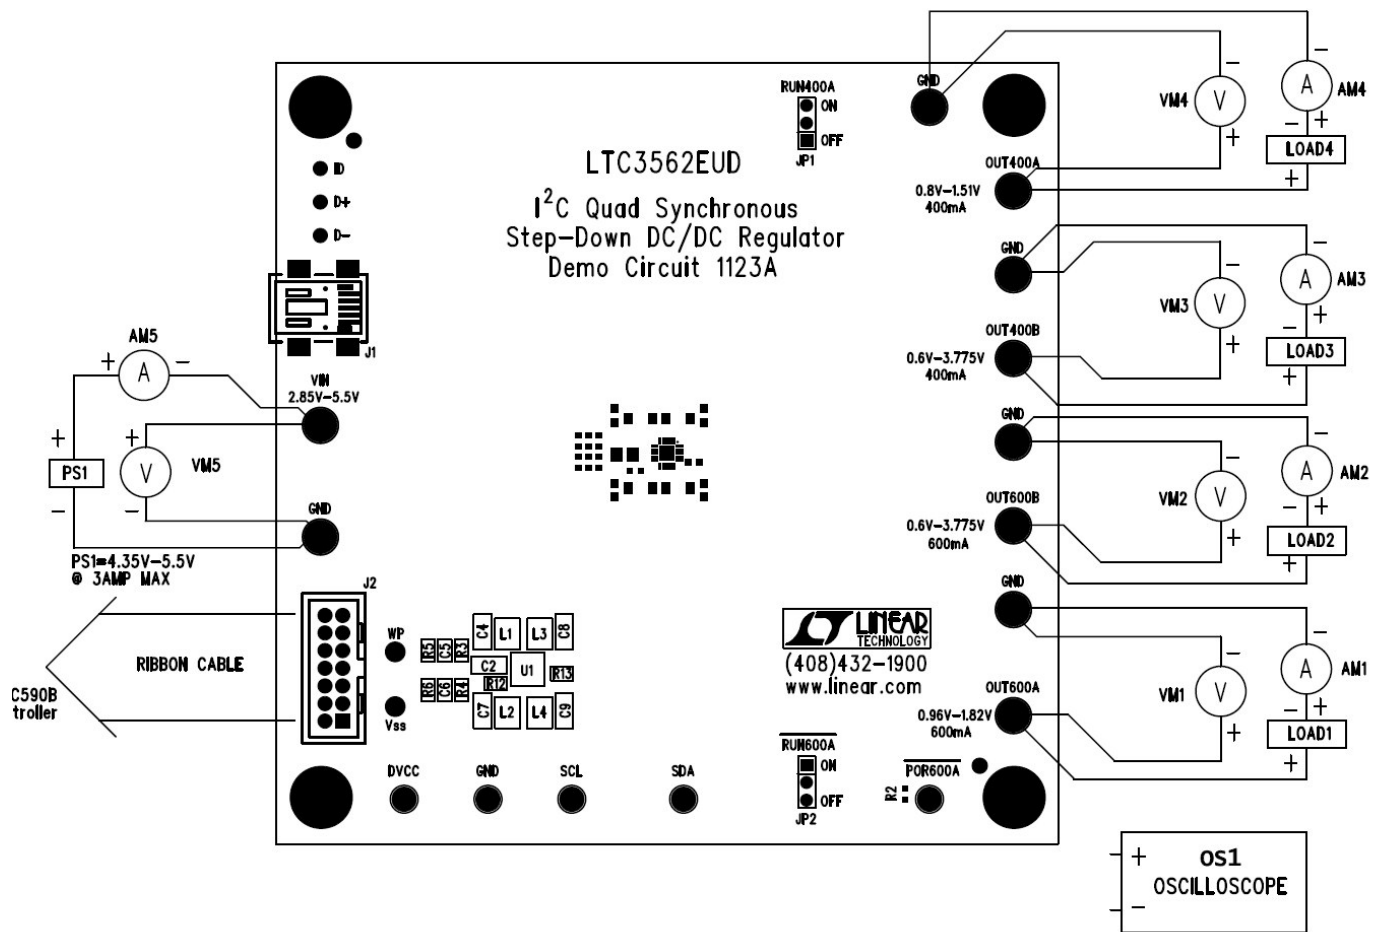

Figure 1. Proper Measurement Equipment Setup
Using short twisted pair leads for any power connections and with all loads and power supplies off, refer to Figure 1 for the proper measurement and equipment setup.
2. Connect Power Supply PS1 to VIN terminals and adjust to 4.5 Volts to the demo board, as shown in Figure 1.